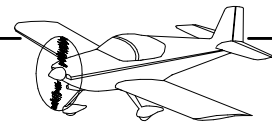

**FIGURE 3:
Step 3: Flute the flanges of the A-1204-L & -R Outbd Nose Ribs and A-1210-L & -R Inbd Nose Ribs at the locations shown in Figures 3 and 4.